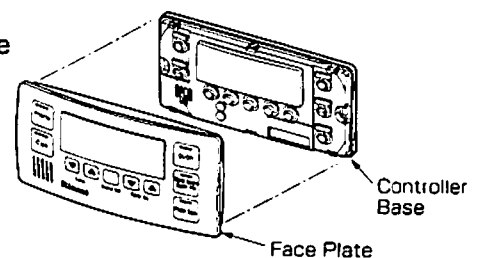

Fig.5: Face Plate Assembly
13. Push the face plate onto the controller base. (Fig.5)
6. Install cable connection as before. (Fig.5)